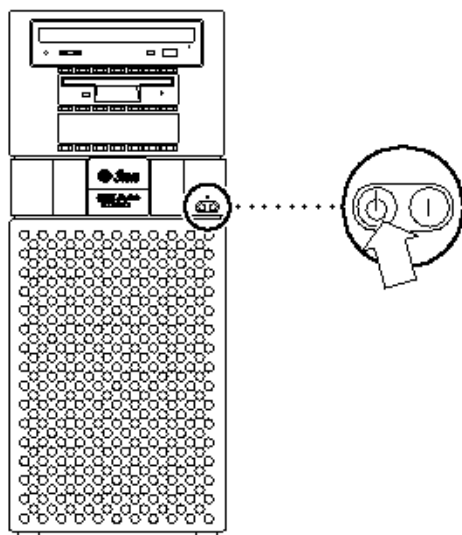

Figure 6-3 System Unit Power-Off (Front Panel)
3. **Set the front panel power switch to the Off position (Figure 6-3).**